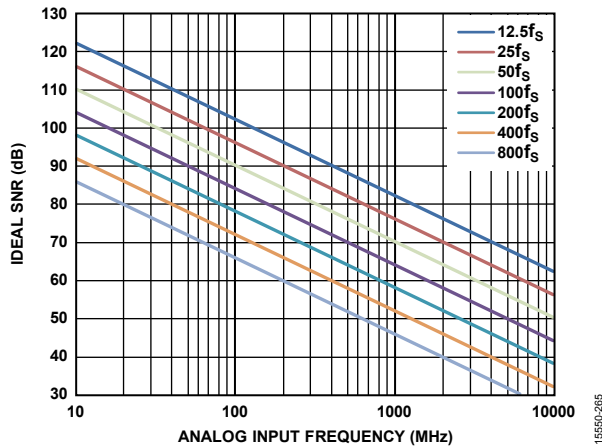

Figure 95. Ideal SNR vs. Analog Input Frequency and Jitter
Intermediate frequency (IF) undersampling applications are particularly sensitive to jitter (see Figure 95).